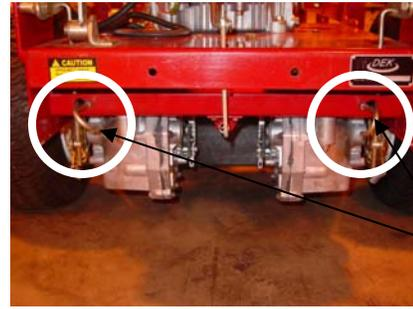

Figure 4
2. Push down and hold the operator presence control levers "A" on the handle bar with both hands (Figure 4).